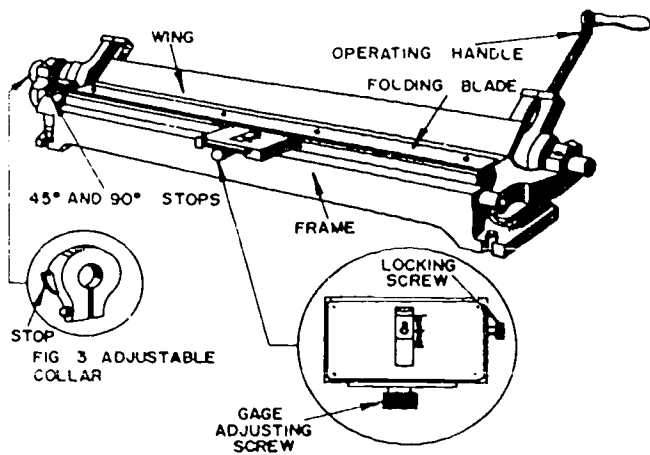

Figure 3-1. Bar folder.
**Bar Folder.** The bar folder, shown in figure 3-1, is designed to make bends and folds from 0° to 165° along the edges of sheets up to 43 inches in width. The thickness capacity of the bar folder illustrated is 20-gage material. This is the machine generally found in most sheet metal shops. The width of the folds, or gaging range, is usually from 3/32 to 1 inch, depending on the thickness of the material; the thinner the gage, the smaller the fold. The maximum diameter for wire edged folds is 1/4 inch. The bar folder is best suited for forming small hems (double or single), right-angle folds, rounded folds, and acute folds (less than 90°).
The bar folder is adjusted for different thicknesses of material by adjusting the wing pressure screws at each end of the folder. These adjustment screws are not visible in figure 3-1, but each consists of a threaded shaft with an adjusting nut and a locking nut which are tightened with a wrench to increase or decrease the distance between the wing and folding blade. After the folder has been adjusted, each end of the machine is tested separately by folding a small piece of metal. Take care not to adjust the bar folder to the extent that clamping pressure is excessive because too much pressure can damage the machine. Excessive clamping pressure is easily detected, because the machine does not operate freely.
The width of the fold is controlled by the gage adjusting screw (shown in fig. 3-1), which can be turned either clockwise or counterclockwise. This screw moves the slide and gage bar back and forth for the desired fold. The gage bar is under the folding blade and is not visible when you stand in front of the folder. Although the gage is graduated in fractions of an inch, a 6-inch rule is used for an accurate measurement by sliding the rule between the jaw and blade and holding it against the gage bar. After the measurement has been made, the gage is locked in place by tightening the lock screw, which is on the right side of the gage.